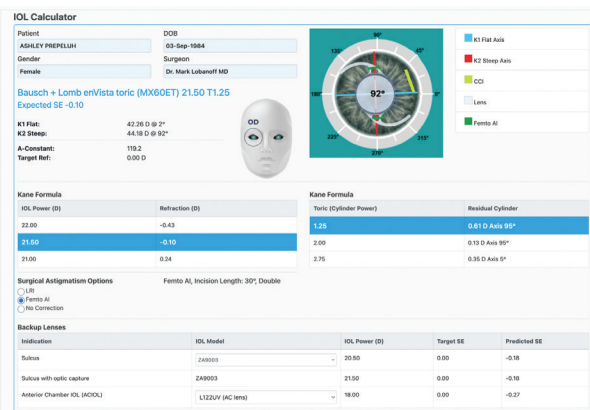

Figure 1. An EyeTelligence cataract surgery plan (fictional patient information).
**Surgical planning.** The data generated during testing are used to populate IOL formulas. Entering data manually is time consuming and introduces the chance of transcription errors. EyeTelligence automatically stores and organizes data in the cloud. It displays astigmatic data from different devices for easy comparison. The platform also harvests information (eg, allergies, medications, comorbidities) from the electronic health record (EHR) system. We may choose from among our favorite IOL formulas or use the EyeTelligence Assistant, which evaluates the eye's unique physical characteristics, compares them to a database of 30,000 eyes, and determines which IOL formulas should be most accurate for a given eye (Figures 1 and 2).